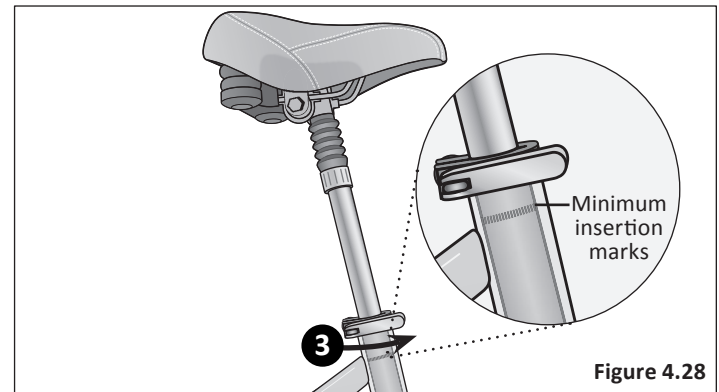

Figure 4.28
- 3 Close the quick-release lever and lock the seat in place. If there is not enough pressure to hold the seat in place open the quick-release lever. With one hand on the quick-release lever and one hand on the adjustment nut, start to hand tighten the adjustment nut until you start to feel some resistance against the seat clamp. **Do not** attempt to tighten by turning the quick-release lever. The quick-release lever is for closing, the adjustment nut is for adjusting the pressure. **Figure 4.28**